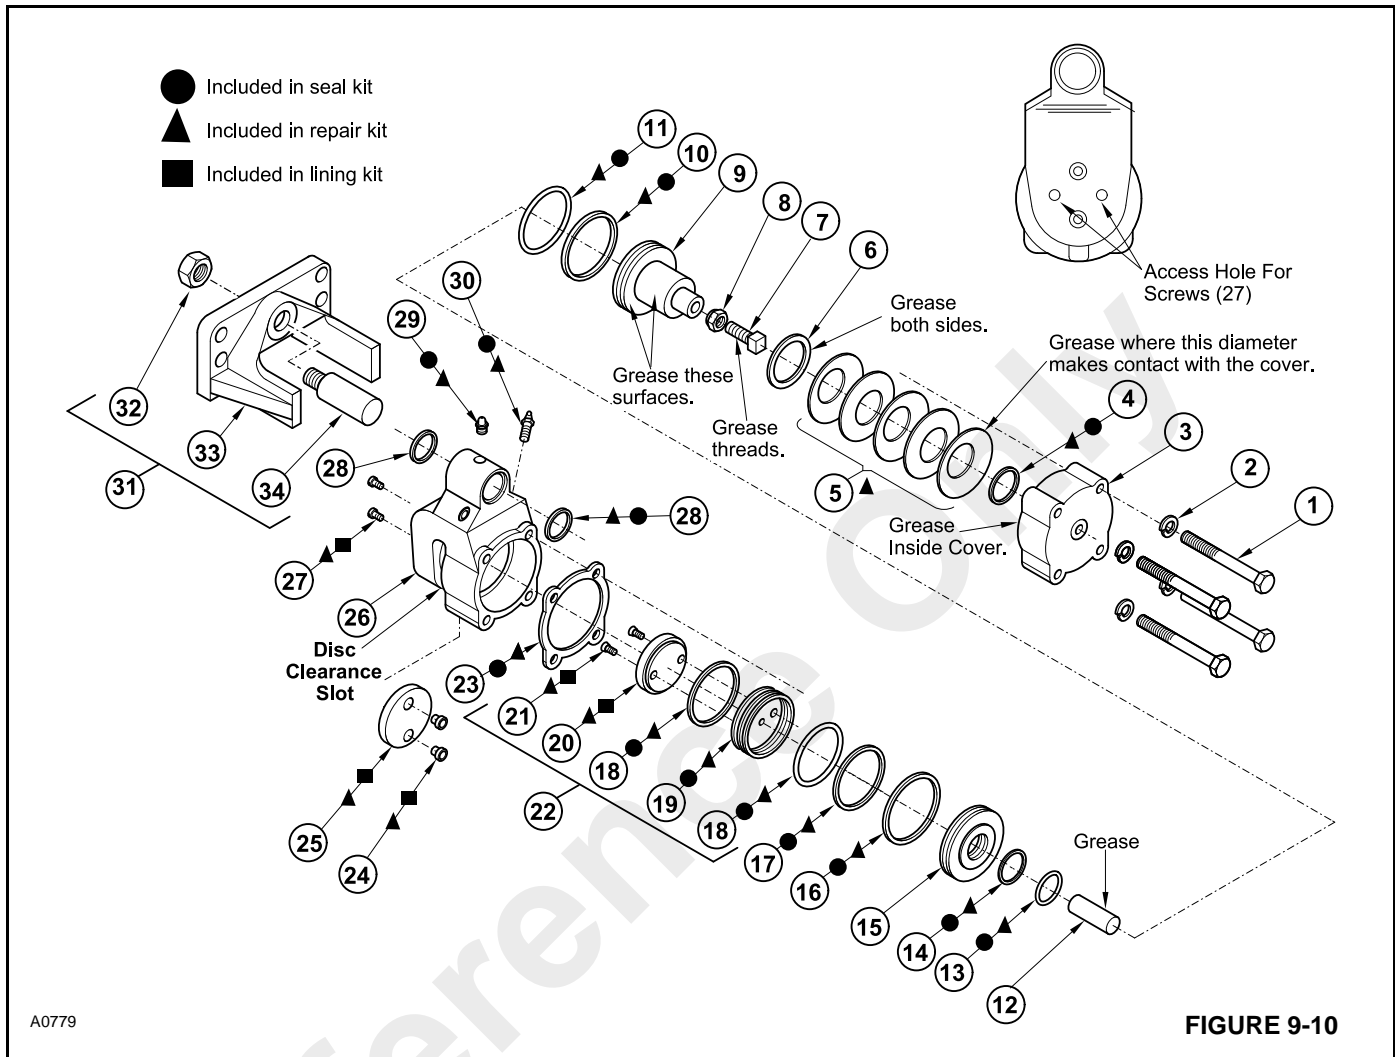

FIGURE 9-10
The lining kit is indicated in Figure 9-10 with a symbol.
4. Loosen lock nut (8, Figure 9-10) and back off adjusting bolt (7).
6. Separate the mounting bracket assembly (31, Figure 9-10) from the brake.
8. Remove two screws (27) through access holes in housing (26). Using a thin blade tool, pry lining (25) from housing (26) and remove the lining and two bushings (24) through the disc clearance slot.
9. Rotate lining assembly (22) until screws (21) are aligned with the access holes in housing (26), see Figure 9-10. Remove the two flat head screws (21). Pry lining (20) from piston (19) and remove the lining through the disc clearance slot.
10. Install new lining (20) into piston (19) through the disc clearance slot. Install new flat head screws (21) and tighten to a torque of 3.4-4.5 Nm (30-40 lb-in).
11. Insert new bushings (24) into new lining (25). Install the new lining into housing (26) through the disc clearance slot. Line up the holes with the housing and fasten with two new screws (27). Tighten to a torque of 2.5-3.2 Nm (22-28 lb-in).
12. Assemble the brake assembly onto mounting bracket (31). Install the parking brake assembly onto the frame of the crane. Attach the hydraulic hose.
The parking brake has a repair kit available. It includes all the parts necessary to rebuild the brake. These parts are indicated in Figure 9-10 with a symbol.
6. Separate the mounting bracket assembly (31, Figure 9-10) from the brake assembly.
7. Clamp the brake in a vice with soft jaws with the cover (3) in a vertical position.
NOTE: Coat the surfaces indicated in Figure 9-10 with a Lithium Base, E.P. No. 2 bearing grease or equivalent.
The parking brake has a seal kit available. It includes all the parts necessary to replace all the seals in the brake. These parts are indicated in Figure 9-10 with a symbol.
6. Separate the mounting bracket (31, Figure 9-10) from the brake assembly.